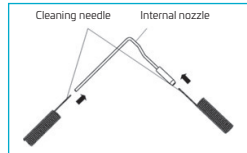
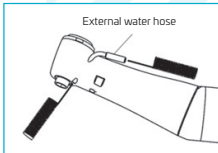

Fig. 13
Fig. 14
- Use a cleaning needle to clean the internal and external nozzles. (Figure 13, Figure 14)